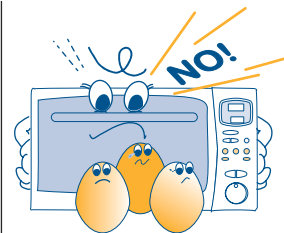

fig. 11
- 9) **Do not cook eggs in their shells** (fig. 11): the pressure which builds up on the inside would cause the egg to explode, even after cooking has finished. Do not heat up eggs which have already been cooked, unless they are scrambled.